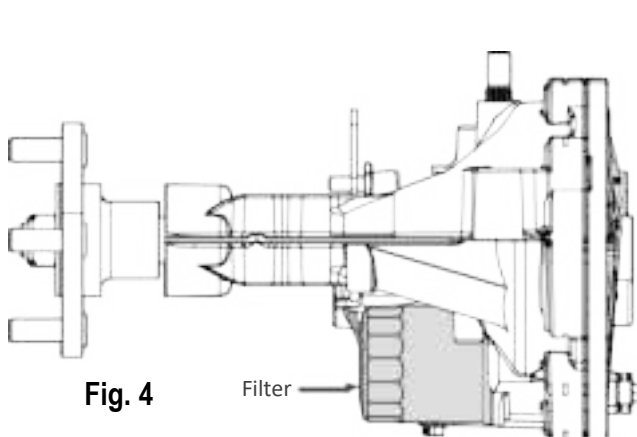

Fig. 4
1. Remove the three 1/4" filter guard screws and filter guard. Clean any loose debris from around the perimeter of the filter. See figures 4 and 5.